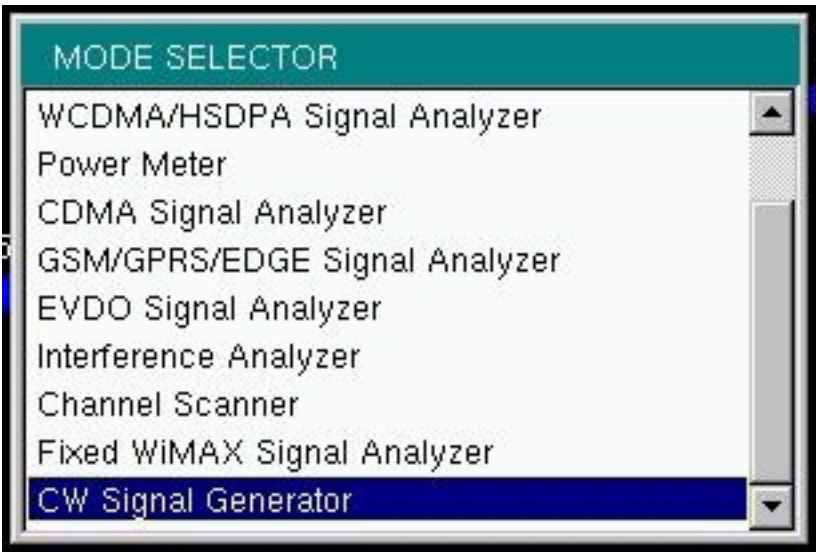

Figure 21-1. CW Signal Generator Mode Selection
To access the functions under the Mode menu, press the **Shift** key, then the **Mode** (9) key. The Mode Selector window pops up. Use the directional arrow keys or the rotary knob to highlight the CW Signal Generator mode, and then press the rotary knob or press **Enter** to select that mode. The list of modes that appears in this menu will vary depending upon the options that are installed and activated in your instrument. Figure 21-1 is an example of the Mode menu. Your instrument may not show the same list.